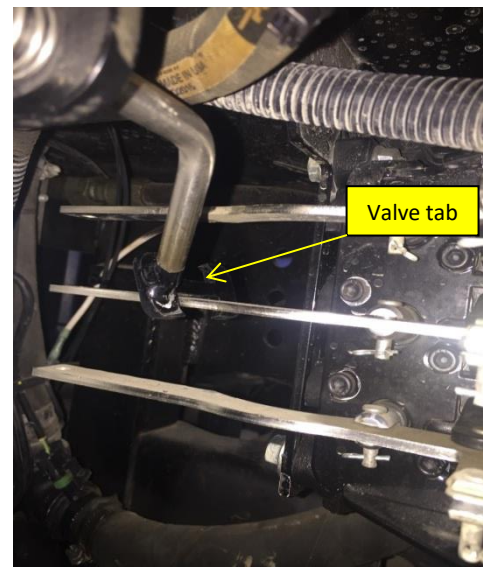

Figure 6
5. Depress the top valve handle so that it will give enough clearance to allow the valve tab to be placed between the valve handles (2 spool valve) or the top and middle handles (3 spool valve), 3 spool valve shown. **Figure 6**